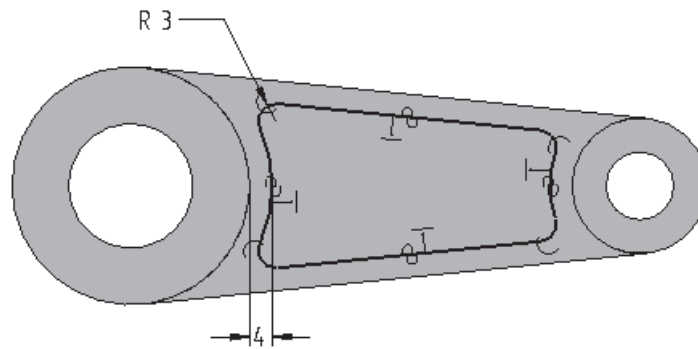

Figure 5-71 Sketch after adding the fillet
- Invoke the **Sketch** tool and draw a sketch on the top plane, refer to Figure 5-71.
7. Add a fillet of radius 3 to the vertices of the projected loop. The sketch is shown in Figure 5-71.